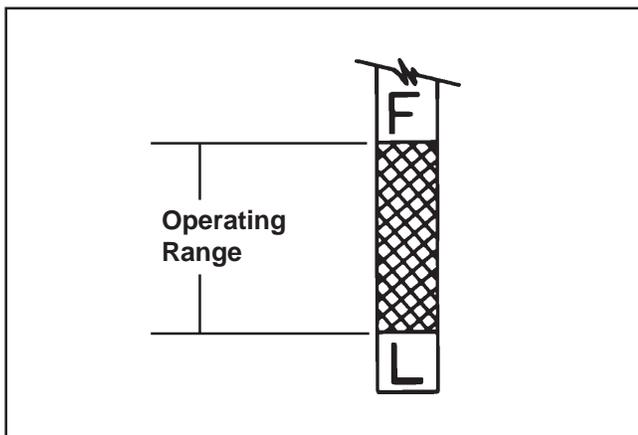

Figure 6-5. Oil Level Dipstick.
4. Remove the dipstick and check the oil level. The oil level should be up to, but not over the “F” mark on the dipstick. See Figure 6-5.